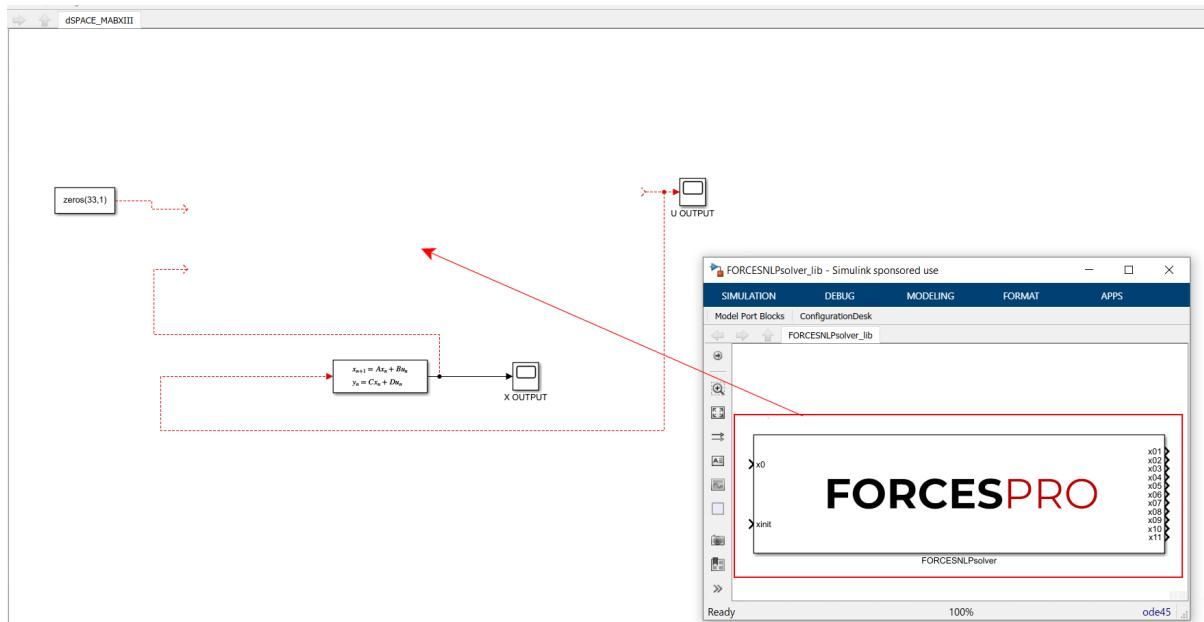

Figure 13.62: Open the generated Simulink solver model.
- 6) Open the `FORCESNLPsolver_lib.mdl` Simulink model file, contained in the `interface` folder of the `FORCESNLPsolver` folder created during code generation (see Figure 13.62).